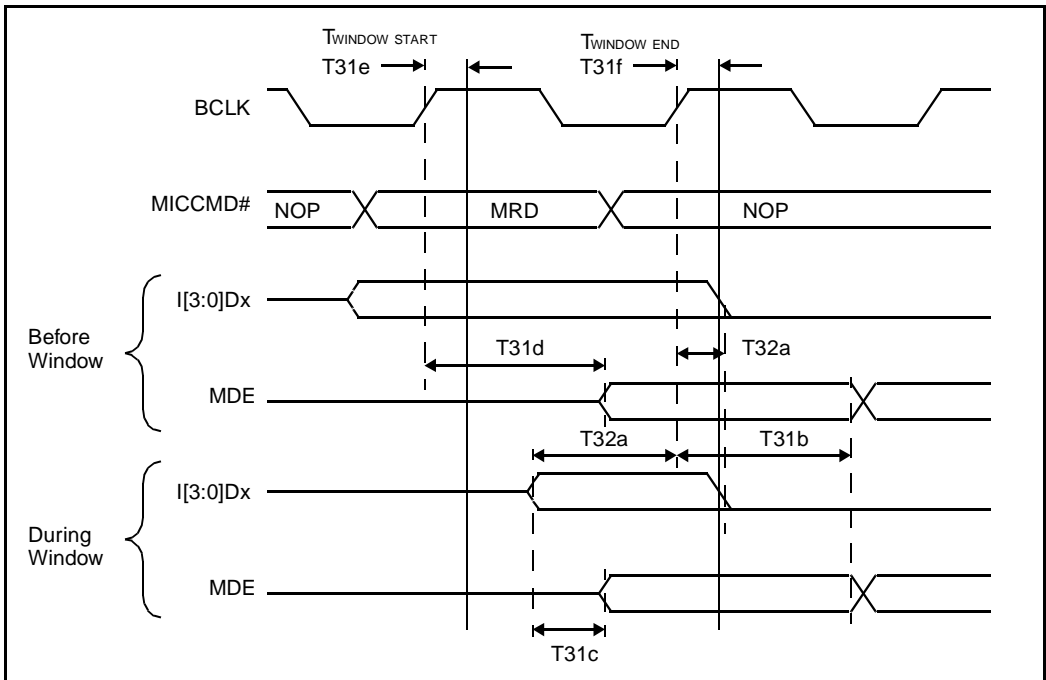

Figure 7. System Memory Signals [Memory Read (MIC)]
5. See Figure 7.
The Read Data Window is shown in Figure 7. At the first clock of a memory read cycle, data is valid to the MICs either before or during the MICs Transparent Latch Window. If data is valid before the window, T31d timings apply. If data is valid during the window, T31c timings apply. T31b is  $T_{CO}$  of the 2nd, 3rd, and 4th quad words.